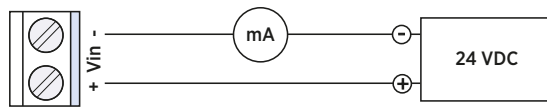

Figure 2 Wiring for 2-wire Output
- 2-wire output: see Figure 2 \(page 2\). Provide a 24 VDC supply voltage.